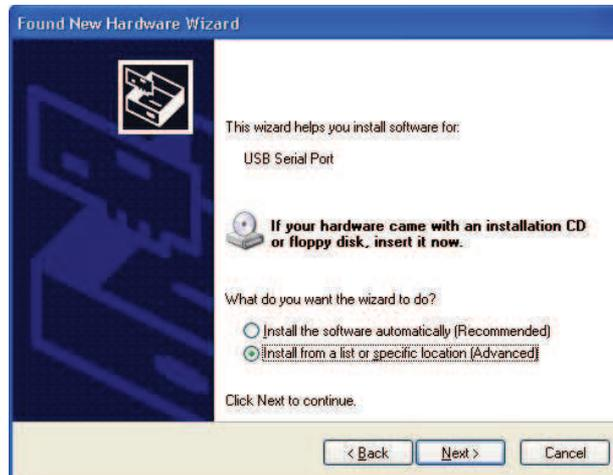

Figure 2.8
- Select "Install from a list or specific location (Advanced)" as shown in Figure 2.8 below and then click "Next".